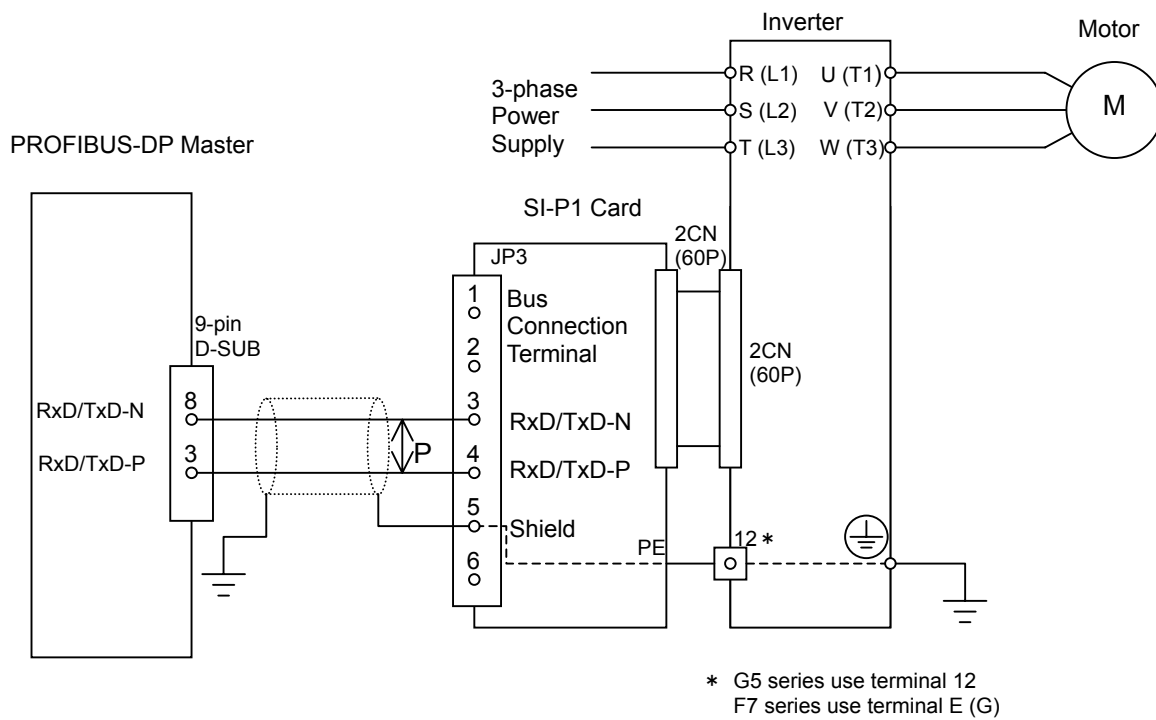

Fig. 3 Interconnection Diagram
Fig. 3 shows the interconnection between the inverter, SI-P1 card and host PROFIBUS-DP master.
4) Connect the SI-P1 card's terminal block No. 3 with the PROFIBUS-DP master's No. 8 pin and connect the SI-P1 card terminal block No. 4 with the PROFIBUS-DP master's D-SUB No. 3 pin. (See Fig. 3.)